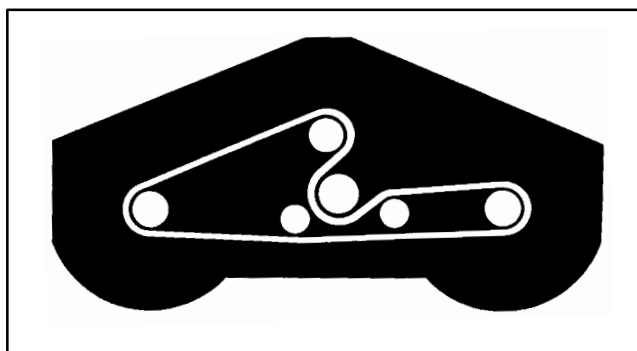

Figure 21
3. Remove (2) capscrews and nuts securing front of gear box plate to deck channels.
4. Loosen (2) capscrews and nuts securing rear of gear box plate to deck channels and raise front of gear box plate to access belt.
6. Route new belt around spindle pulleys and thru idler pulley assembly, as shown in figure 21.